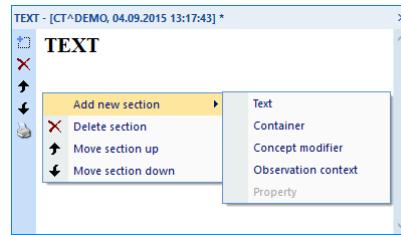

Figure 433 – Report dialog – context menu
-  **Text type templates** - write a text report in **Report** dialog displayed subsequently (see Figure 433). Select either **Blank report** template or another
To insert a new section into the report editor, click the  **Add new section** icon in the left toolbar of the dialog or select the **Add new section** item in the context menu of the **Report** dialog (the context menu opens by right-clicking in the dialog). A menu is then displayed with the section types that can be added to the text of the edit dialog (see Figure 433):